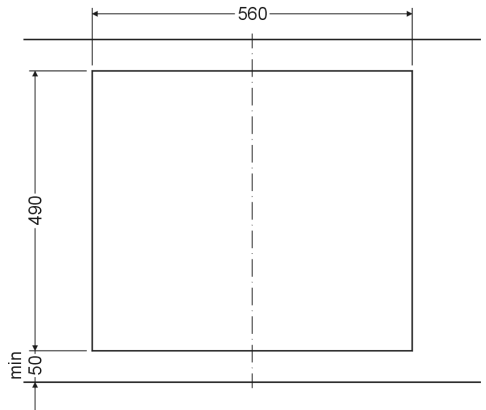

Fig.1
1. Prepare an opening to install the cooking surface according to Figure 1.